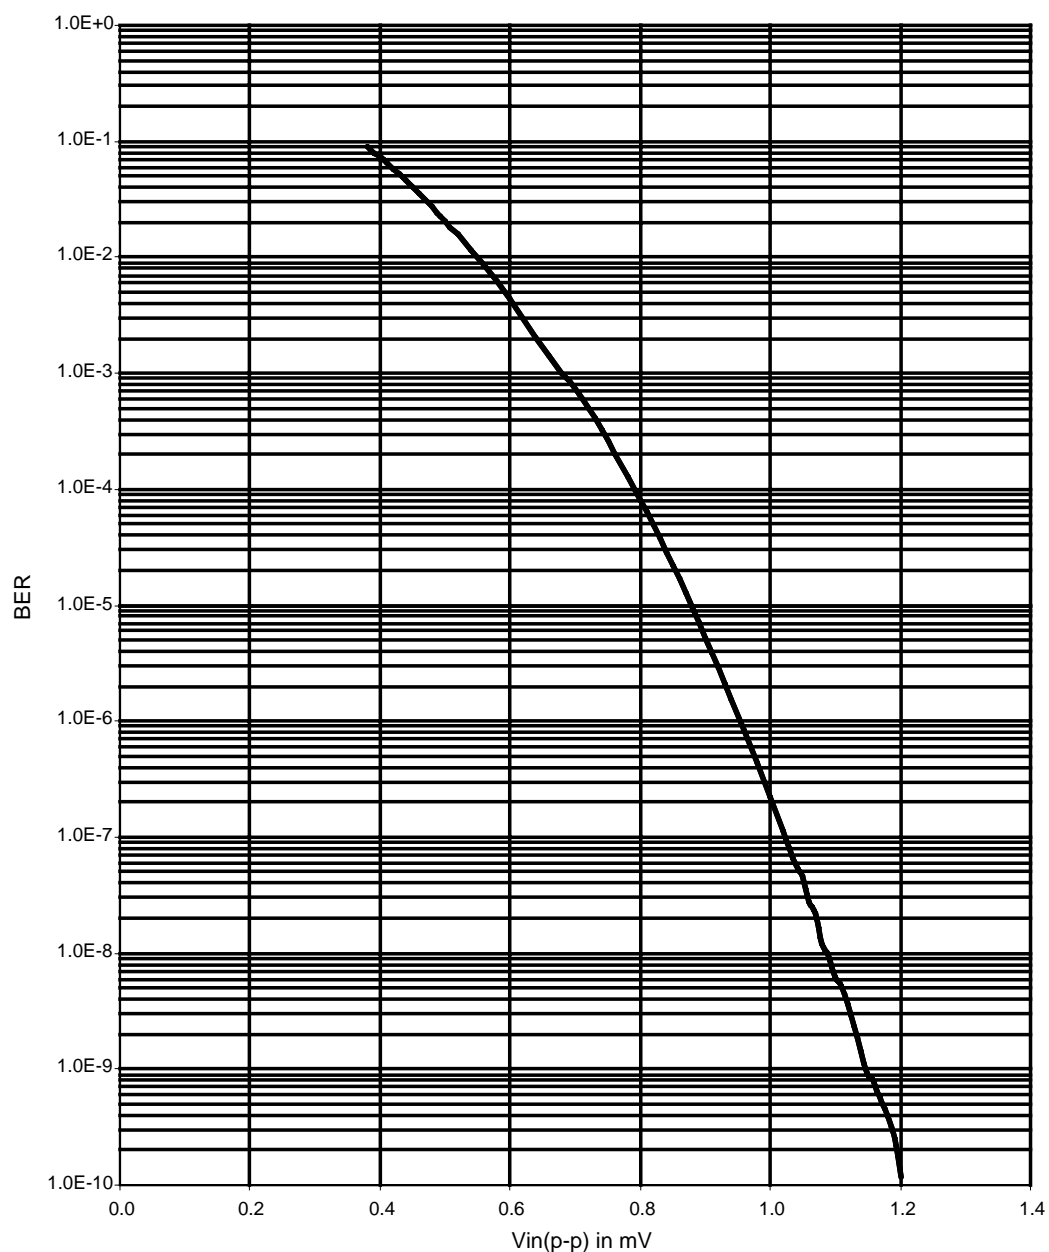

Fig.7 Bit Error Rate versus input signal on DI/DIQ in STM1 mode(155.52 Mbits/s).
- Data to clock delay according to figure 7. Measured with 1010 data pattern, single ended output signals and rising edge of COUT to DOUT or CLOOP to DLOOP. Note that small deviations from specified value are possible if differentially measured.